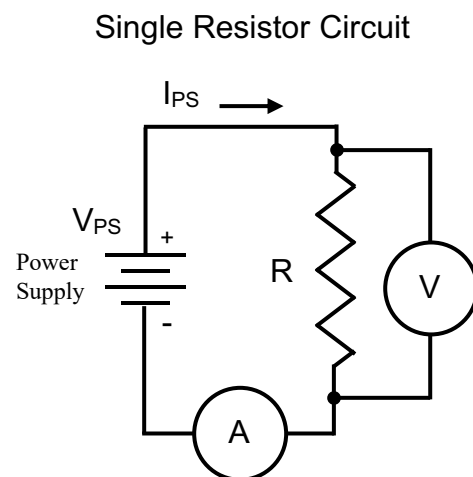

Figure 9.4
Connect your electronic components into the following circuit, as in Figure 9.4. Remember, the voltmeter (circled 'V') does not interrupt the "flow" of the circuit. It is measuring a potential difference "across" the resistor. On the other hand, the ammeter (circled 'A') is measuring current -all of the current- so it needs to interrupt the "flow" of the circuit. In other words, you will have one wire leave the output of power supply and go to the resistor. A wire will leave the other end of the resistor and go into the milliamp (mA) port of the ammeter. Another wire will exit the Common/Ground port of the ammeter and return to the ground of the power supply. The voltmeter will have 2 wires connected to it, one will tap into one side of the resistor, the other wire will tap into the opposite end of the resistor. Use a resistor of at least 1000 ohms. Use the color code in *Section 3.3* to ensure that your resistor is 1000 ohms.
- **NOTE: IMPORTANT: CAUTION!** You will use a similar circuit as in Figure 9.4 but will substitute the light bulb for the resistor and you **MUST** change the ammeter wires to